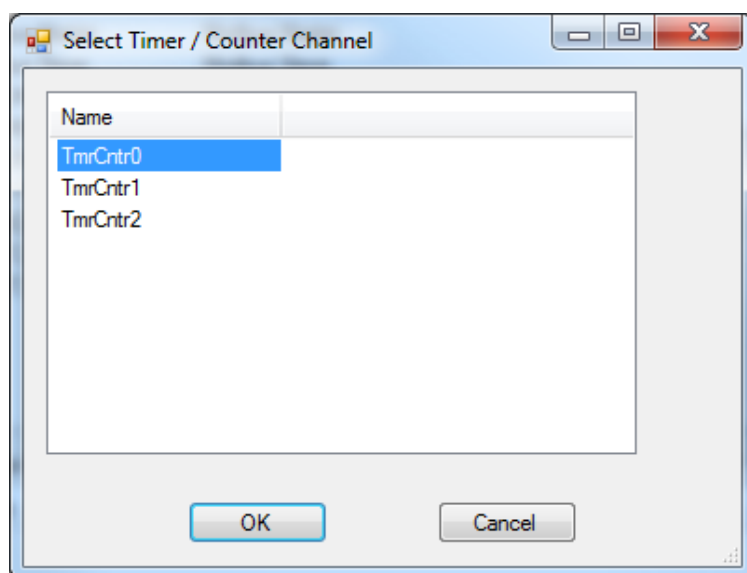

Figure 2-5 - Select Timer/Counter Channel
5. Click the **ADD** button. The *Select Timer / Counter Channel* dialog will open. Refer to Figure 2-5. Select from the list of available Timer/ Counter Channels - TmrCntr0 - TmrCntr2 for CNTA - CNTC respectively. Click **OK**. The *TmrCntrX Properties* window will open.